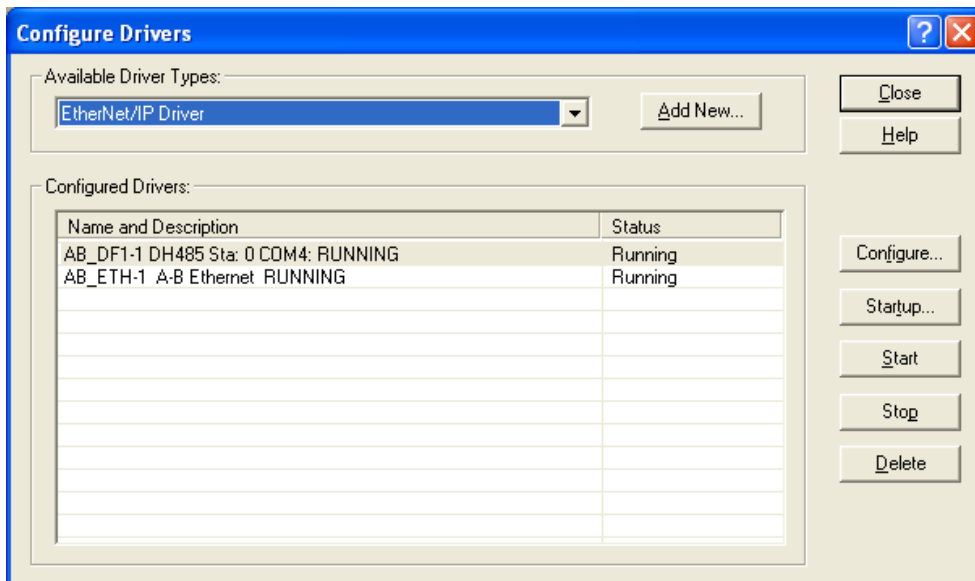

Figure 55: RSLinx Add New EtherNet/IP Driver
- b) Select EtherNet/IP Driver and click Add New (see Figure 55).